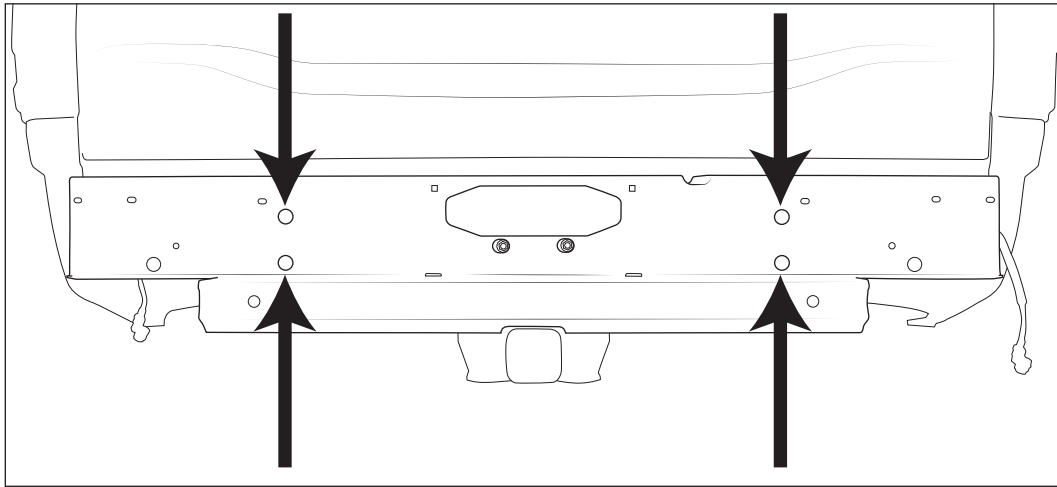

Figure 28
- Align the four holes on the outside face of the center section with frame brackets, loosely install supplied M8x25 bolts and washers (fig. 28). NOTE: It is helpful to loosen the six mounting bolts on the factory hitch assembly to allow for additional adjustment of the center section mounting points.